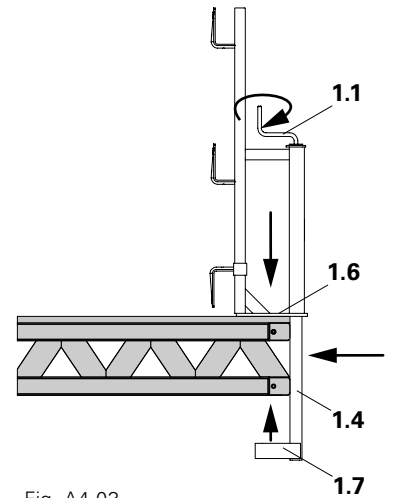
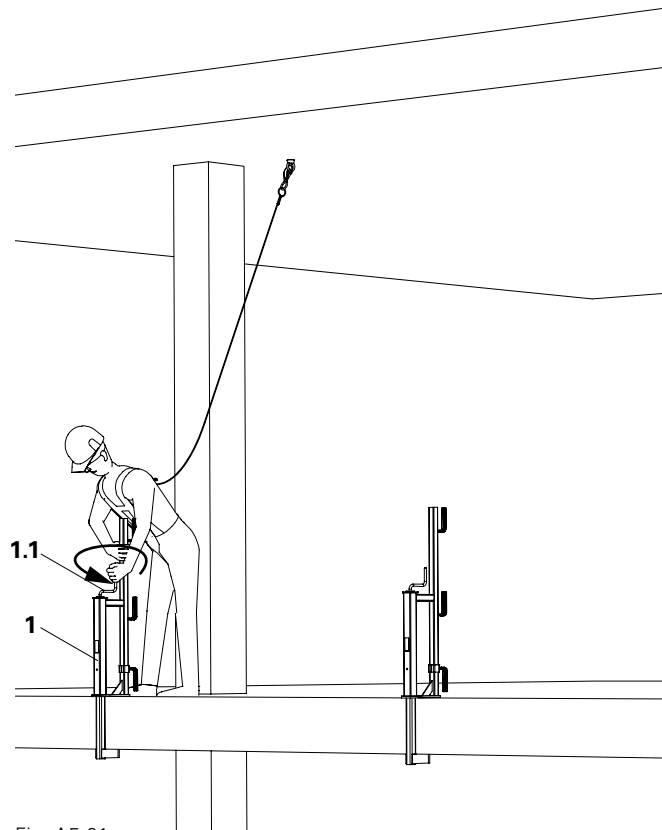

Fig. A4.03
Fig. A5.01
2. On the front side and middle, push the Guardrail Holder-2 (1) over the formwork girder. (Fig. A4.03/A4.04a)
- Clamping tube (1.4) retracts. (Fig. A4.03)
- The clamping tube (1.4) must lie flat against the formwork girder. (Fig. A4.03/A4.04)
4. Release Guardrail Holder-2 (1) by turning the crank (1.1) in an anti-clockwise direction. (Fig. A5.01)
2. Push the toe board holder (1.2) on the Guardrail Holder-2 upwards, and pull out Side Mesh Barrier PMB (5). (Fig. A4.03)
3. Lift the Side Mesh Barrier PMB (5) upwards and remove, then place in the PERI Pallet EP 110. (see Section A1)
4. Release the Guardrail Holder-2 (1) by turning the crank (1.1) in an anti-clockwise direction. (Fig. A5.01)